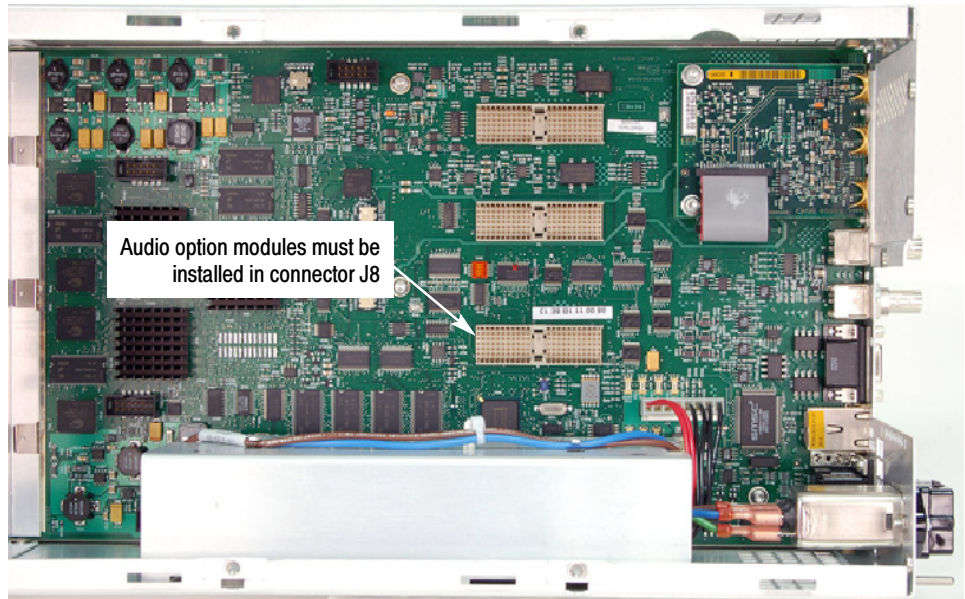

Figure 8: Location of the optional modules connector on main board
3. Install the new audio module into the instrument, fully inserting the module connector into J8 on the Main Interface board. The recessed flange on the left side of the module rear panel slides behind the adjacent rear panel. See Figures 8 and 9.